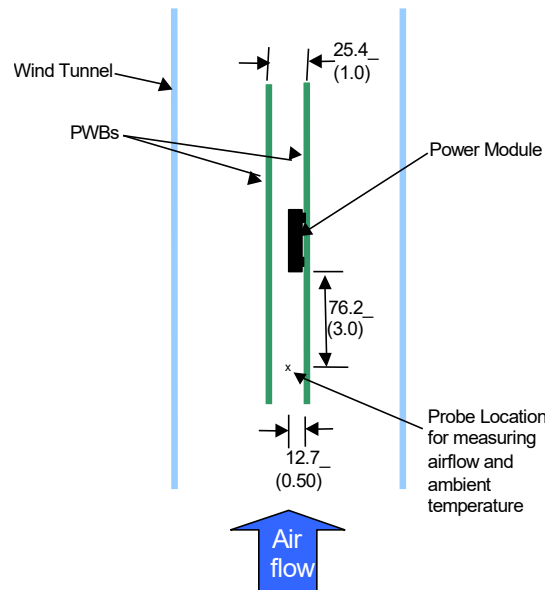

Figure 28. Thermal Test Setup.
Power modules operate in a variety of thermal environments; however, sufficient cooling should always be provided to help ensure reliable operation. Considerations include ambient temperature, airflow, module power dissipation, and the need for increased reliability. A reduction in the operating temperature of the module will result in an increase in reliability. The thermal data presented here is based on physical measurements taken in a wind tunnel. The test set-up is shown in Figure 28. The preferred airflow direction for cooling the module and the thermal reference points, Tref used in the specifications are shown in Figure 29. For reliable operation the temperatures at these points should not exceed 120°C (IC100) and 115°C (C102). The output power of the module should not exceed the rated power of the module ($V_{o,set} \times I_{o,max}$). Please refer to the Application Note “Thermal Characterization Process for Open-Frame Board-Mounted Power Modules” for a detailed discussion of thermal aspects including maximum device temperatures. Increased airflow over the module enhances the heat transfer via convection. The thermal derating of figures 2, 8, 14 and 20 show the maximum output current that can be delivered by each module in the indicated orientation without exceeding the maximum Tref temperature versus local ambient temperature (TA) for several air flow conditions. The thermal derating curves were generated using a 12 layer evaluation board with 3oz copper in inner layers and 2 oz in outer layers.